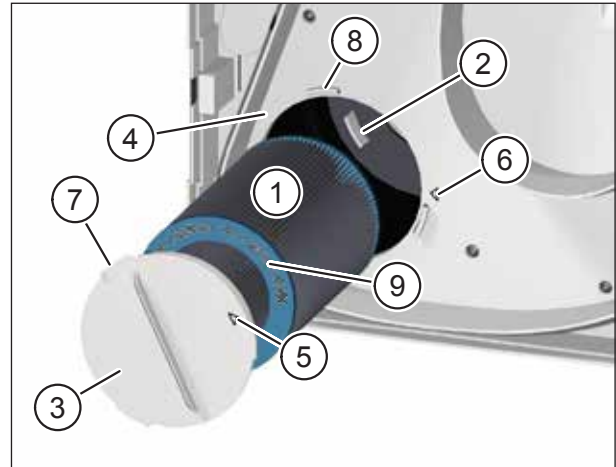

Fig. 18: Inserting the new outdoor air filter
- ▶ Carefully guide the new outdoor air filter (item 1 in Fig. 18) into the ventilation unit.
- ▶ Make sure that the air filter slides into the 3 retaining tabs (item 2 in Fig. 18) on the back wall of the ventilation unit.
- ▶ Place the filter cover (item 3 in Fig. 18) on the outdoor air filter. Make sure that the filter cover lies flat on the intermediate plate (item 4 in Fig. 18).
- ▶ Turn the filter cover clockwise until the arrow on the filter cover (item 5 in Fig. 18) lines up with the arrow for the locking position (item 6 in Fig. 18). Make sure that the 3 tabs (item 7 in Fig. 18) on the filter cover engage in the retainers (item 8 in Fig. 18) on the intermediate plate.
- Only M-WRG-II FA, part no. 750010, and M-WRG-II FK (activated charcoal filter), part no. 750020, may be used as the outdoor air filter. The part no. and air filter class are imprinted on the turquoise end plate of the air filter (item 9 in Fig. 18).